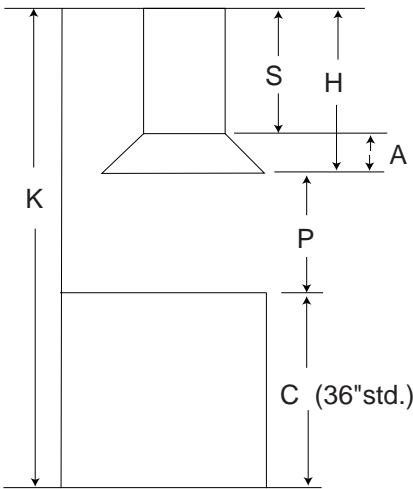

Figure 2
4. Hood installation height above cooktop is the users preference P (see Figure 2). The lower the hood above the cooktop, the more efficient the capturing of cooking odors, grease and smoke. Be sure that your hood model fits your installation.
Pre-Installations Calculations (see Figure 2)
1. a) Select a hood preference height P (see Figure 2) that is comfortable for the user. (30" - 36" recommended, 24" - 36" allowed).
- b) Calculate Hood height your installation H (see Figure 2). $H = K - C - P$.
- d) Calculate Chimney structure height S (use formulas in Figure 2, and check dimensions of your hood). Save this calculation for use later in the installation.